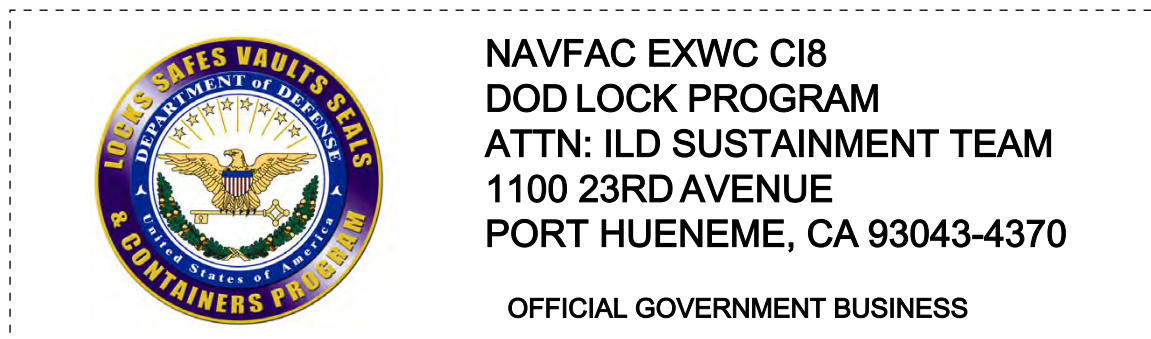

Figure 5-14. NAVFAC Return Shipping Label
Step 3: Cut out the return shipping label below, Figure 5-14, and affix to sealed package. Ship the package to NAVFAC via the approved shipping methods of your command.